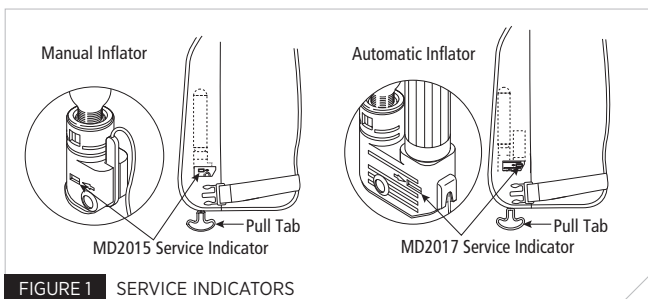

FIGURE 1 SERVICE INDICATORS
1. Examine the service indicator through the window panel (Fig. 1). Ensure the service indicator is green. If the service indicator is red, the mechanism has been fired or is incorrectly fitted (see “Re-arming Your PFD (MD2015)” on page 7 or see “Re-arming Your PFD (MD2017)” on page 9).
4. For the MD2017 only – Ensure the bobbin is valid. The PFD, or bobbin, must have been purchased within the last three (3) years. If the purchase date is unknown, check the date printed on the bobbin and replace if older than three (3) years (see “Re-arming Your PFD (MD2017)” on page 9).
5. Ensure the service indicator is green and the pull-tab lanyard is hanging on the outside (Fig. 1); secure the Velcro™ strips on both sides of the Inflatable PFD.
- Ensure the inflation pull-tab is hanging on the outside (Fig. 1)
- For the MD2017 only – Ensure the bobbin is valid. The PFD, or bobbin, must have been purchased within the last three (3) years. If the purchase date is unknown, check the date printed on the bobbin and replace if older than three (3) years (see “Re-arming Your PFD (MD2017)” on page 9).
3. Examine the service indicator (Fig. 1). If the service indicator is red, the mechanism has been fired or is incorrectly fitted and the inflator requires service (see “Re-arming Your PFD (MD2015)” on page 7 or see “Re-arming Your PFD (MD2017)” on page 9).